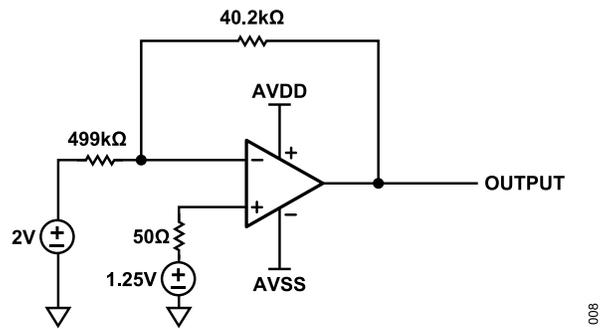

Figure 6. DC Voltage Source Input Test Circuit, Default Gain State
6. Retain the default gain settings. Leave P5 or P4 open for a gain of -0.08. The equivalent test circuit is shown in Figure 6.